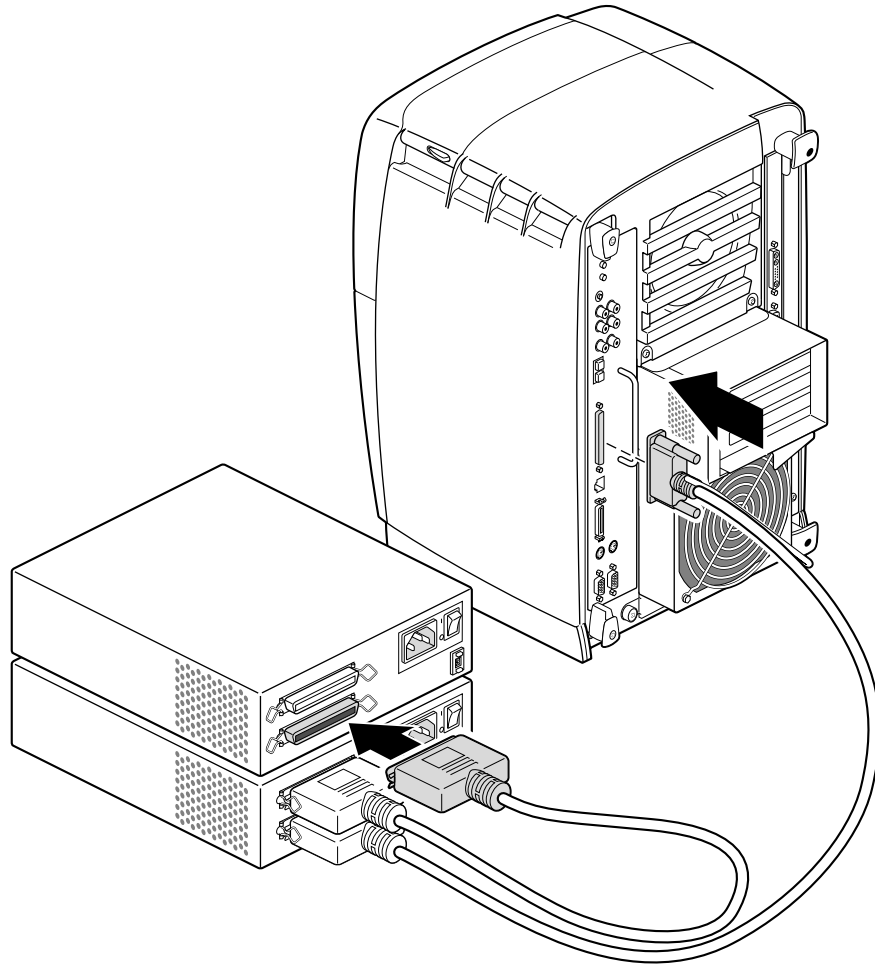

Figure 6-7 Daisy-Chaining an External SCSI Device to Another External SCSI Device
- Connect one end of the cable to the open connector on the first device, as shown in Figure 6-7.